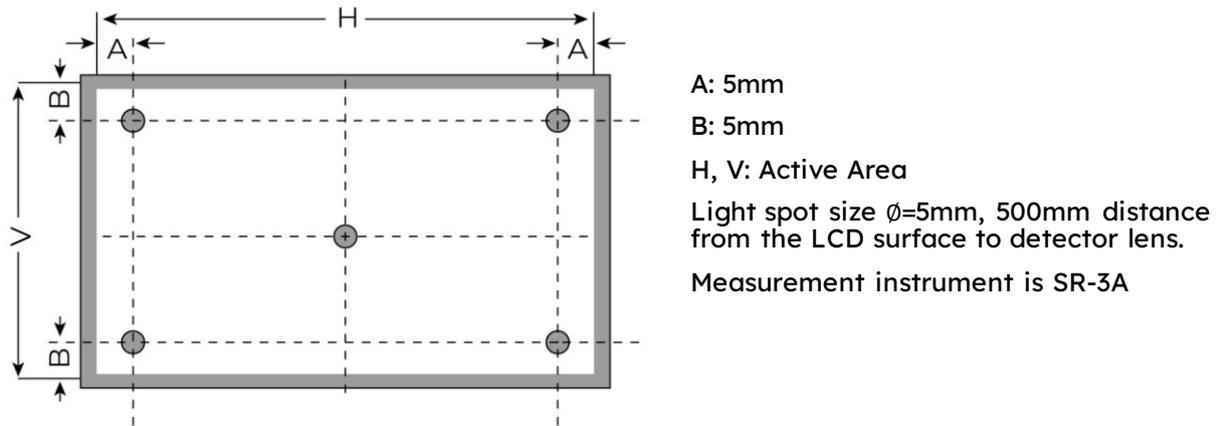

Figure 2. Measuring method for Contrast ratio, surface luminance, Luminance uniformity, CIE (x, y) chromaticity
Note 1. Contrast Ratio (CR) is defined mathematically as below, for more information see Figure 2.
Note 2. Surface luminance is the LCD surface from the surface with all pixels displaying white. For more information see Figure 2.
Note 3. The uniformity in surface luminance δ WHITE is determined by measuring luminance at each test position 1 through 5 and then dividing the minimum luminance of 5 points luminance by maximum luminance of 5 points luminance. For more information see Figure 2.